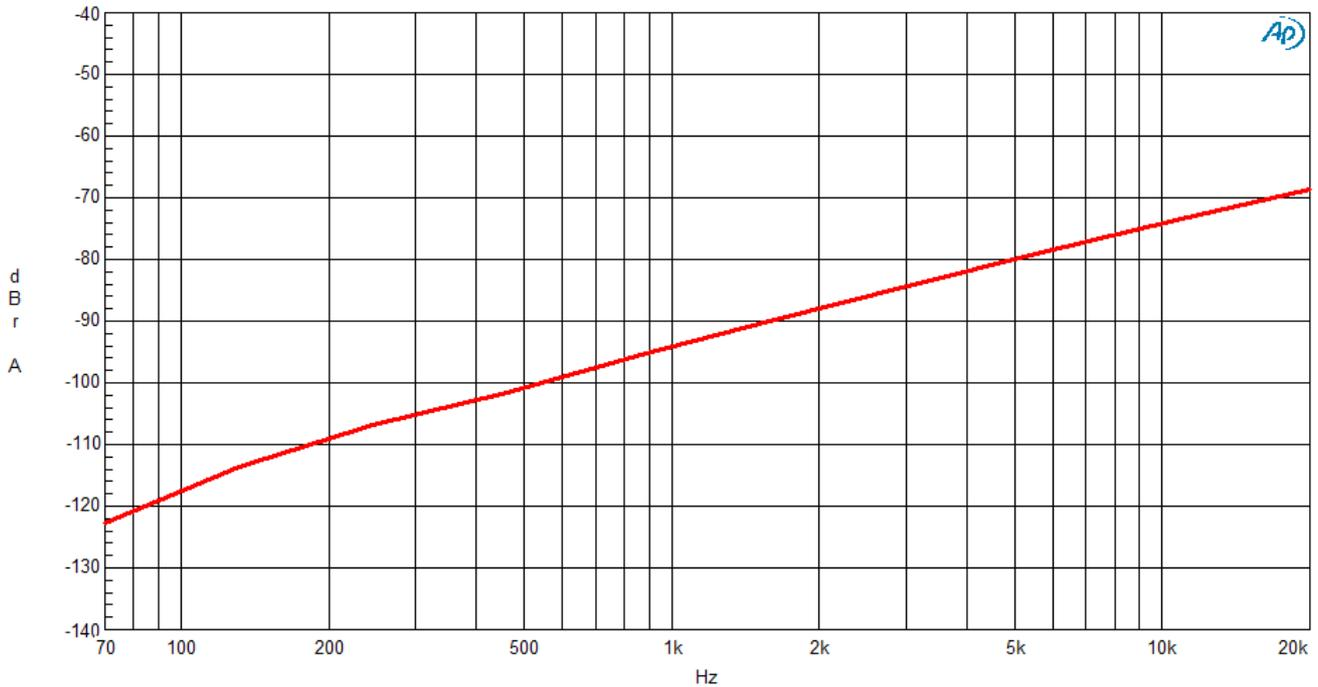

Fig.10 Cross-talk into adjacent channel at 8V into driven channel. 10 k load.
8. Cross-talk into adjacent channel. This is tested by driving one balanced channel and measuring the spill-over into an adjacent channel. Result as shown in figure 10. Note that the input level here needed to be set to 8V (!) to obtain a meaningful result.